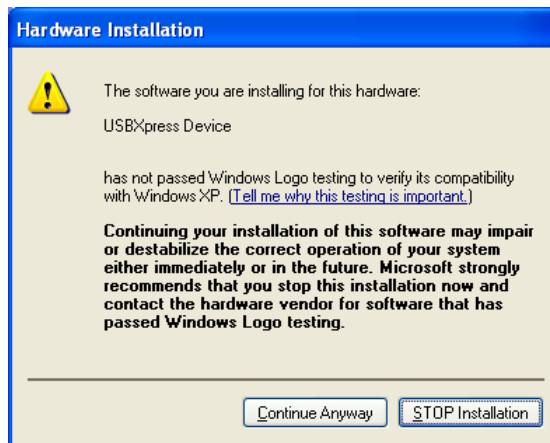

Fig. 13-12
- (8) Now, installation starts. If the warning like the Fig. 13-12 concerning Windows Logo test appears during installation, click **【Continue Anyway】** button.